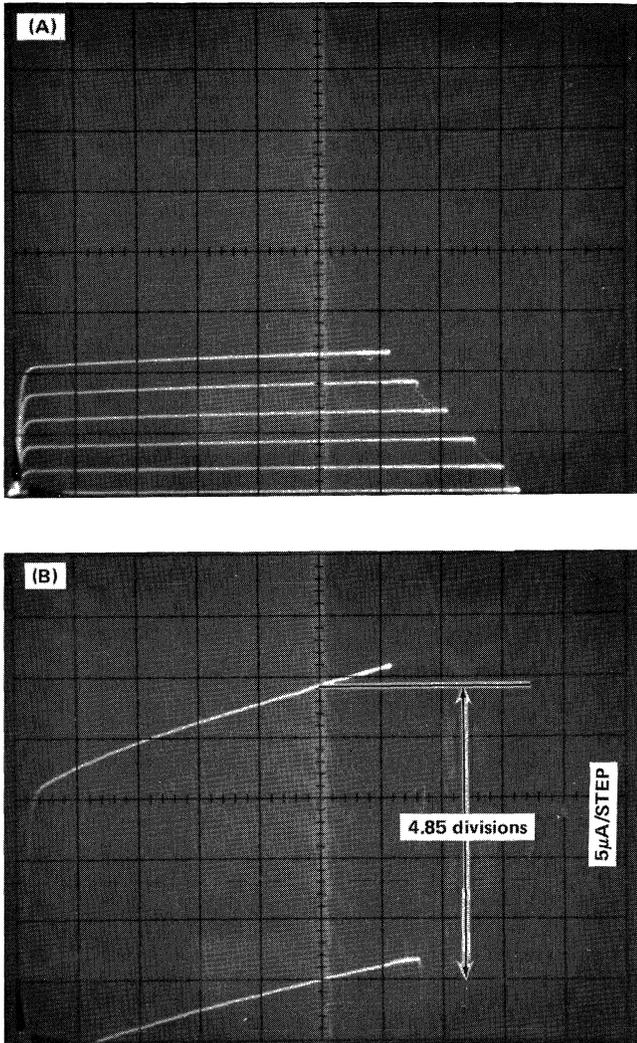

Fig. 13. Illustration of steps 14 and 15, β calculation.
c. Multiply the β /Div (a) by the collector current change in divisions (b). The example in Fig. 13 shows a base current step of $5 \mu\text{A}$. The collector current per division equals $.2 \text{ mA}$.